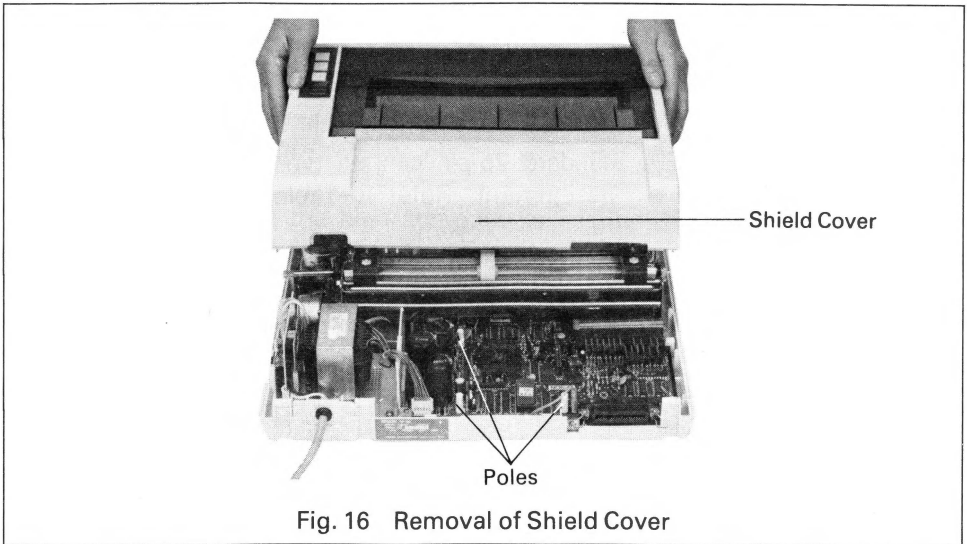

Fig. 16 Removal of Shield Cover
- 3) Take off the upper case and the shield cover. (See Fig. 16.)